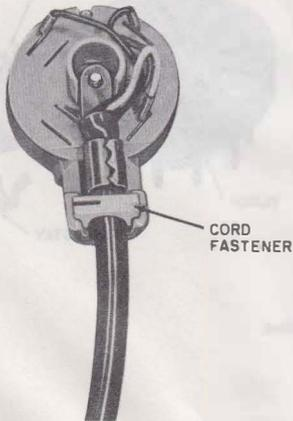

Fig. 16—Current Model D3BU Cord Connected to Current Model 505A Plug
- (1) Position flat eyelet stay band in the cord channel so that the screw hole is over the screw hole in the center of the cord tip guide (see Fig. 16).
- (2) Fit cord fastener into groove in the cord channel and press until it snaps into position.
- (3) Connect the mounting cord space tips in the socket-type terminals.
- (4) Insert screw through hole in block and stay band.
- (5) Dress conductors so they will not obstruct the center of the cord tip guide.
- (6) Position cap assembly on cord tip guide and block; check that no cord leads are pinched and tighten screw.